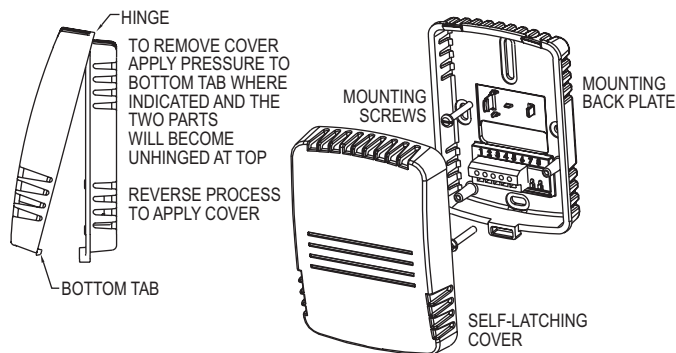

Figure 1
1. Push tab on bottom of cover and lift cover from back plate. (See Figure 1).
Remove the cover of the unit as shown in Figure 1. The Current/Voltage select switch is located on the back of the circuit board. Set the switch "IOUT" for current, "VOUT" for voltage.
To access the DIP SWITCH, remove the cover of the unit as shown in Figure 1. The DIP SWITCH is located on the back of the circuit board.